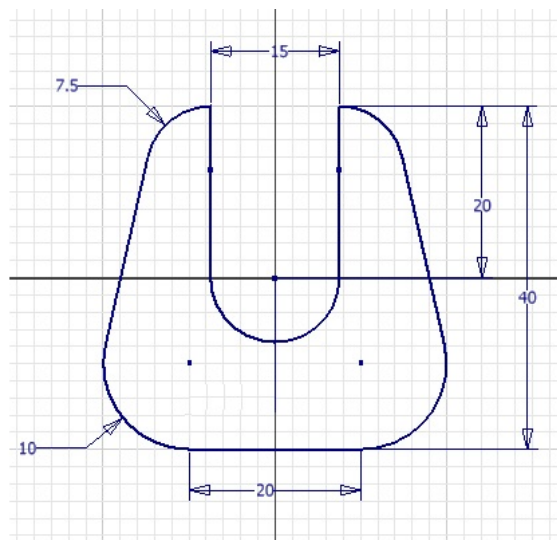

Figure 3-61 Dimensioned sketch for Tutorial 3
- Invoke the Sketching environment and add the required dimensions and constraints to the outer loop, refer to Figure 3-61.
With this step, all the dimensions have been applied to the sketch, refer to Figure 3-61, except the horizontal dimension between the center points of arcs 4 and 6 or arcs 8 and 6. The need of these dimensions depends on the constraints and dimensions assumed while drawing the sketch. If the sketch gets overconstrained, the **Autodesk Inventor Professional** message box is displayed. Choose **Cancel** from the message box. In this case, the dimension has already been assumed.